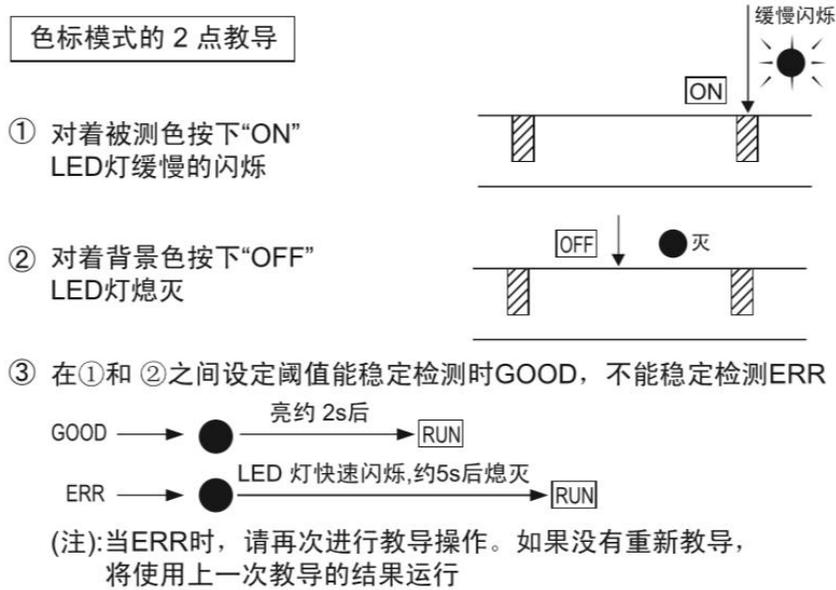

Figure 1 Color code sensor calibrating method
- 2.1.2. First align the light spot of the color code sensor to the LOGO, and press ON. After the indicator light flashes slowly, move the light spot and align it to the elastic band without LOGO. Then press OFF, and complete the calibration, after the indicator light flashes for about 2 seconds. For details, see Figure 1 below.